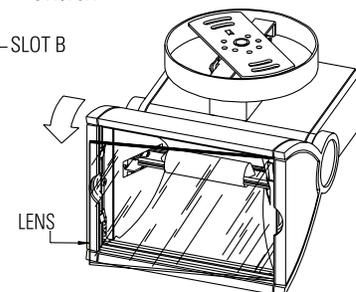

FIG. 6
3. Carefully rotate LENS out of SLOT A in the direction shown in FIG. 6.